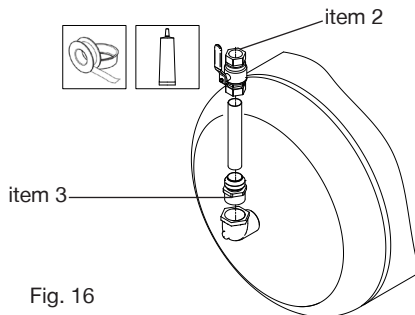

Fig. 16
d) With the vessel on its side screw the Mainsboost vessel connector (item 3) provided in the upstream line-in kit, into the tank elbow using suitable thread seal such as PTFE tape or liquid thread lock (see Fig. 16).